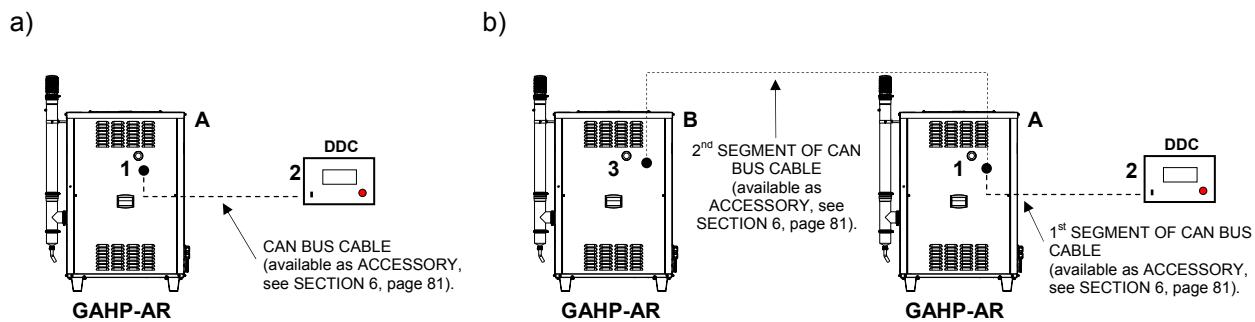

Figure 23 - Examples of CAN bus with: a) 2 nodes = 1 appliance + 1 DDC; b) 3 nodes = 2 appliances + 1 DDC
- If the DDC is an **intermediate node** of the network (see Figure 23, page 58): carry out also point 7;
- If the DDC is a **terminal node** of the network (see Figure 23, page 58), do not carry out point 7 and proceed directly to point 8.